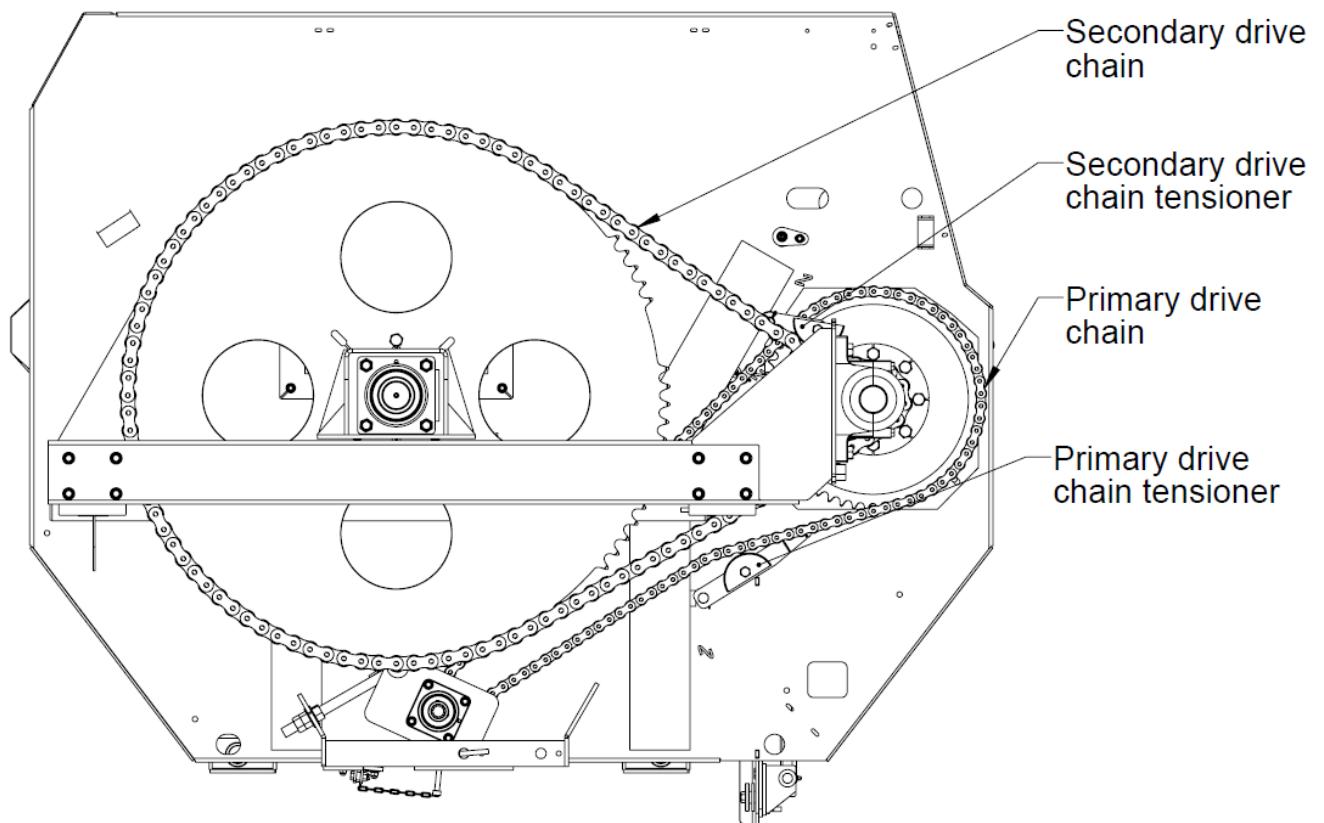

Figure 9: Front panel of KEENAN 250/280 Mixer Wagon
1. Each week check the condition of the chain tension arms and adjust as required. There are two chains used on the KEENAN model. The primary drive chain (ASA100) drives the idler shaft, and the auger shaft from the input shaft (see figure 9) and the secondary chain (ASA140HS) drives the rotor. Both chains are tensioned by spring assemblies on the slack side of the chain.